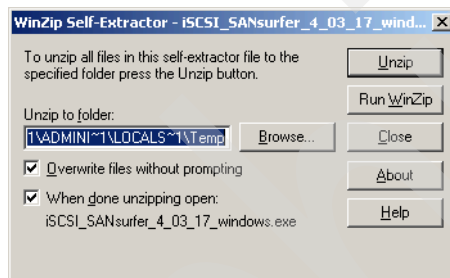

Figure 21-10 WinZip Self-Extractor
3. Click **Unzip** to extract the content of the archive into the suggested location (Figure 21-10). The setup will start automatically after extraction is complete.